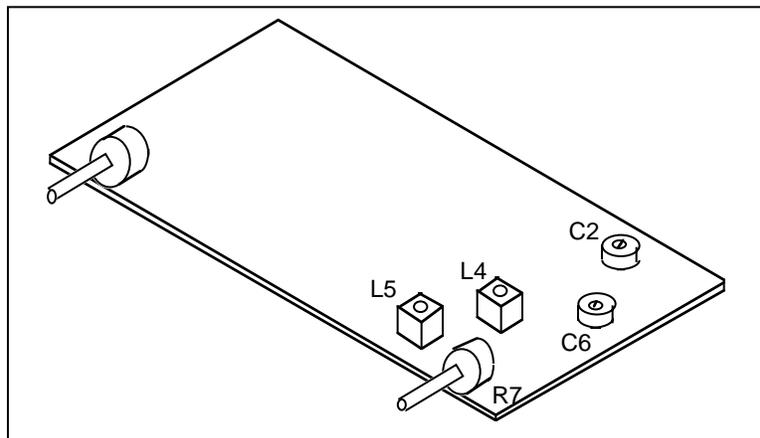

Figure 18. Locations of the variable capacitors and inductors
4. □ Set the TUNING control to the 10 o'clock position. *Carefully* adjust inductor L5 (Figure 18) with the white tuning stick until a loud low frequency tone is heard in the speaker (set volume control as desired). *Caution:* Do not screw down the inductor slugs too far, as the ferrite material could crack. By adjusting L5 to hear the tone, you are tuning the receiver to 20.00 MHz. The signal which you hear is generated in OSC1, a crystal controlled test oscillator built into the receiver. Once L5 has been set, DO NOT readjust it during the remainder of the alignment procedure. (When the receiver tunes 20.00 MHz with the knob set to the 10 o'clock position it will tune 20.1 MHz with the knob centered on the 12 o'clock position.)